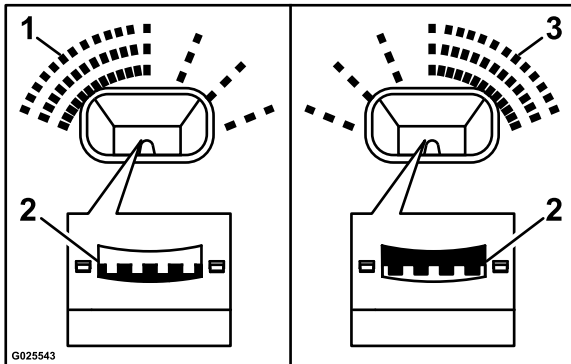
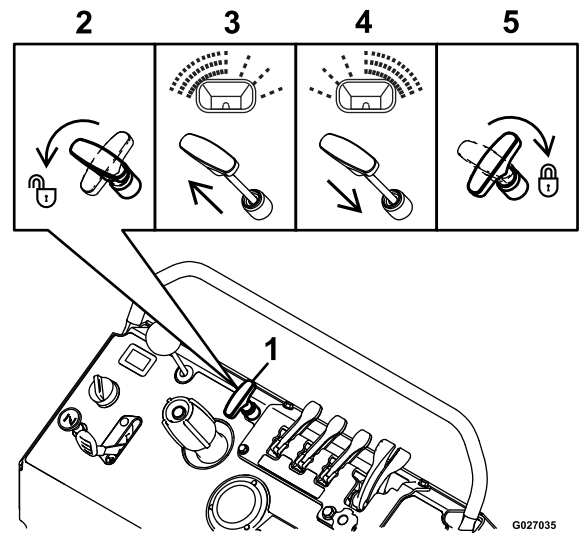

Figure 29
Figure 30
If the spreader casts material unevenly side-to-side—too light/heavy to one side—(see Figure 29 and Figure 30), adjust the spreader-pattern.
1. Unlock the spreader-pattern control by turning the handle counterclockwise 90° as shown in 2 of Figure 30.
- If the material is broadcast too heavy at the left side of the machine, pull the spreader-pattern control up slightly; refer to 3 of Figure 30.
- If the material is broadcast too heavy at the right side of the machine, push the spreader-pattern control down slightly; refer to 4 of Figure 30.
- Lock the spreader-pattern control by turning the handle clockwise 90°; refer to 5 of Figure 30.